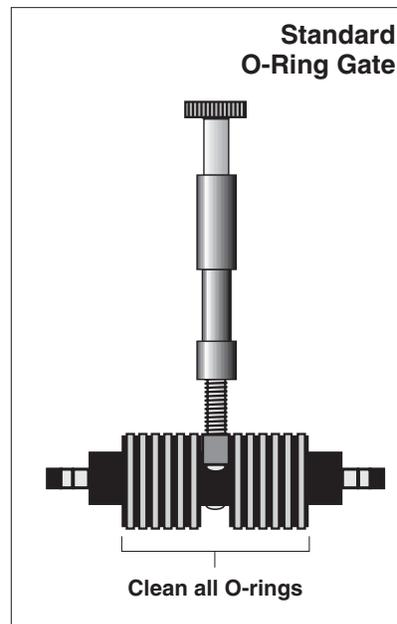
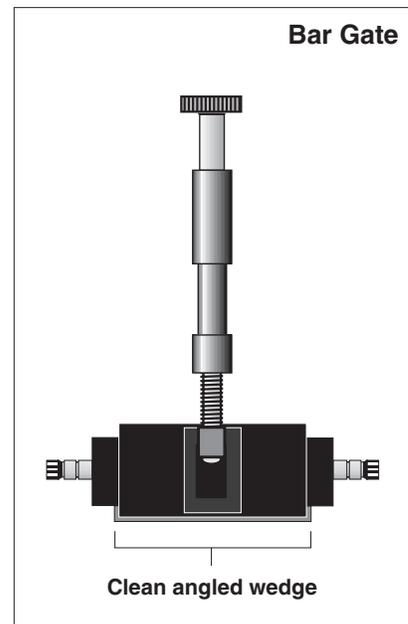

Figure 43. Cleaning Standard O-Ring Gate
Figure 44. Cleaning Bar Gate
5. Wipe across O-rings (Figure 43) or angled wedge if applicable (Figure 44), first in one direction then the other.